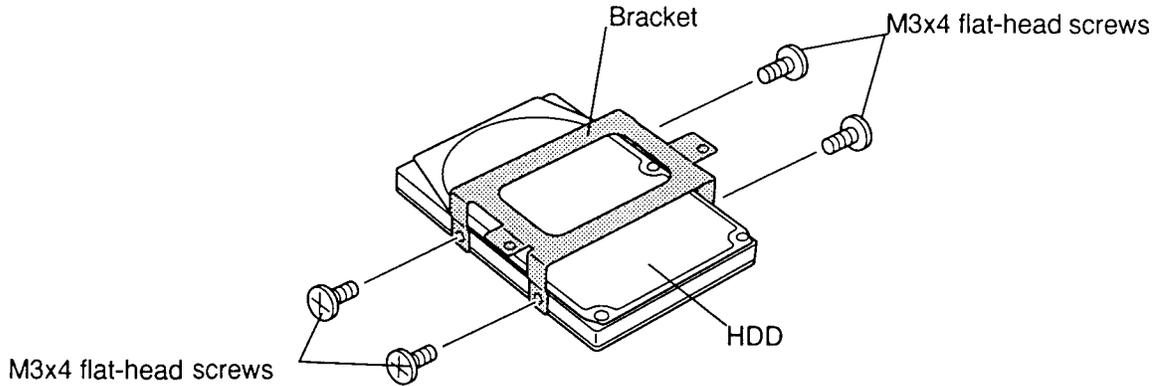

Figure 4-15 Removing the HDD
5. Remove four flat-head M3x4 screws securing the bracket to the HDD and slip off the bracket (figure 4-15).
1. Secure the bracket with the four flat-head M3x4 screws (figure 4-15).
3. Secure two M2.5x4 screws at the middle of the HDD (figure 4-15).